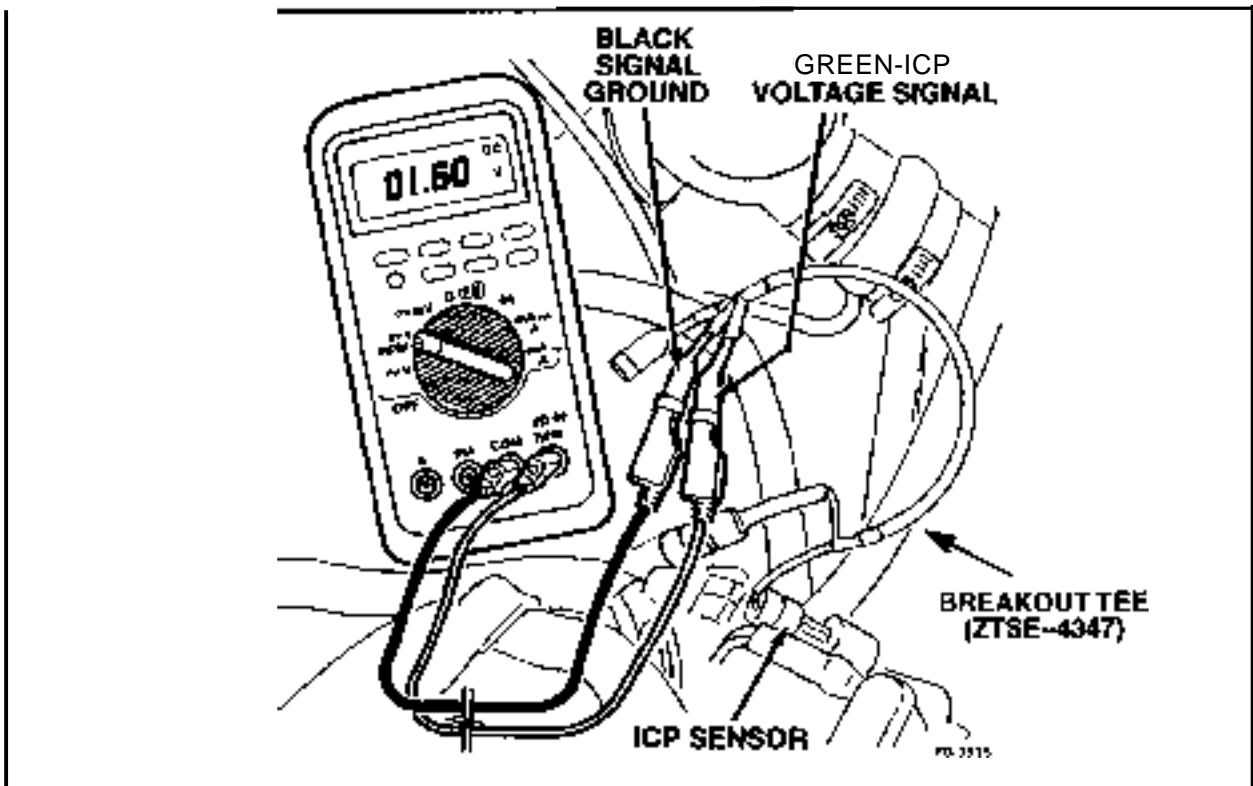

Figure 2.3-20. - Measuring Injection Control Pressure Using "Breakout Tee"
3. Connect DVOM leads (+Green, -Black) to the breakout "TEE" as shown in (Figure 2.3-20.)